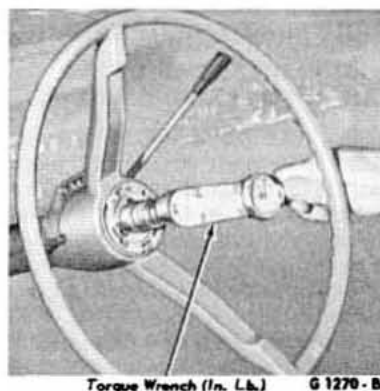
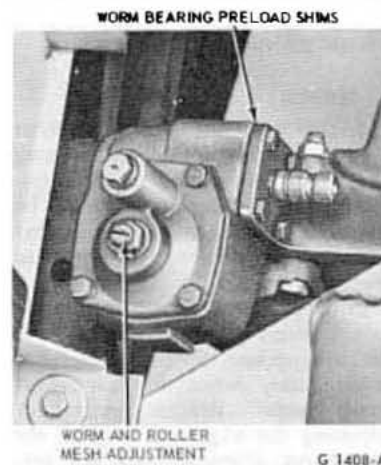

Fig. 62—Checking Pre-Load—Manual Steering—Typical
Fig. 65—Steering Gear Adjustments—Bronco
9. Loosen the nut which locks the sector adjusting screw (Fig. 62), and turn the adjusting screw counterclockwise. (On the Econoline this is done from inside the cab.)
4. Place an in.-lb torque wrench on the steering wheel attaching nut (Fig. 62) and measure the torque required to keep the wheel moving at a constant rate for approximately $2\frac{1}{2}$ turns. If the torque, or preload is not within specifications, remove or add gasket shims between the worm shaft bearing retainer cover and the steering gear housing (Fig. 65) to adjust the worm bearing preload to specification. Install the cover and torque the attaching bolts to specification.
2. To adjust the mesh, loosen the adjusting screw lock nut (Fig. 65), and adjust the worm and roller mesh by turning the adjusting screw inward (clockwise) to tighten the mesh, or by turning it outward (counterclockwise) to loosen the mesh.